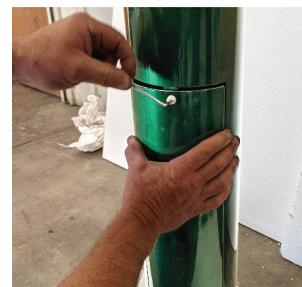

Figure 2 - Step 4
4. Remove the access panel to expose the inside of the solar unit using a 5/32" Hex key. (See Figure 2).
14. Re-install the access panel. (See Figure 2).